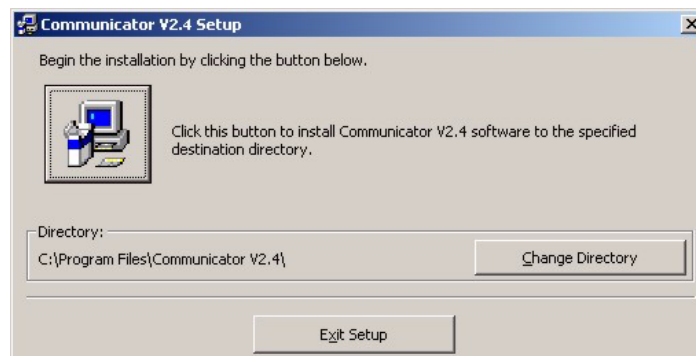

Figure 66 - Communicator Software Installation - Start Installation
- 2.7 The **Start Installation** dialog box will be displayed (refer to Figure 66).